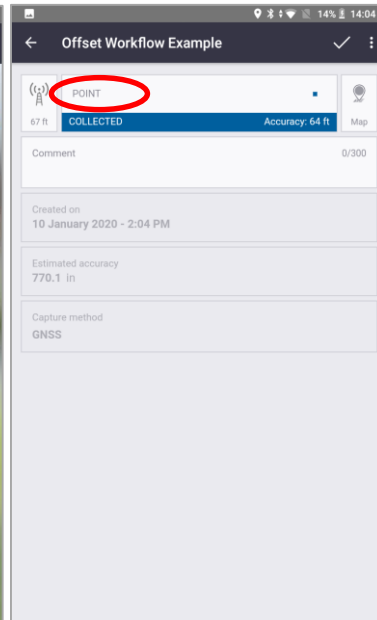

Figure 6
6. Tap on the **Point** box at the top (Figure 6)